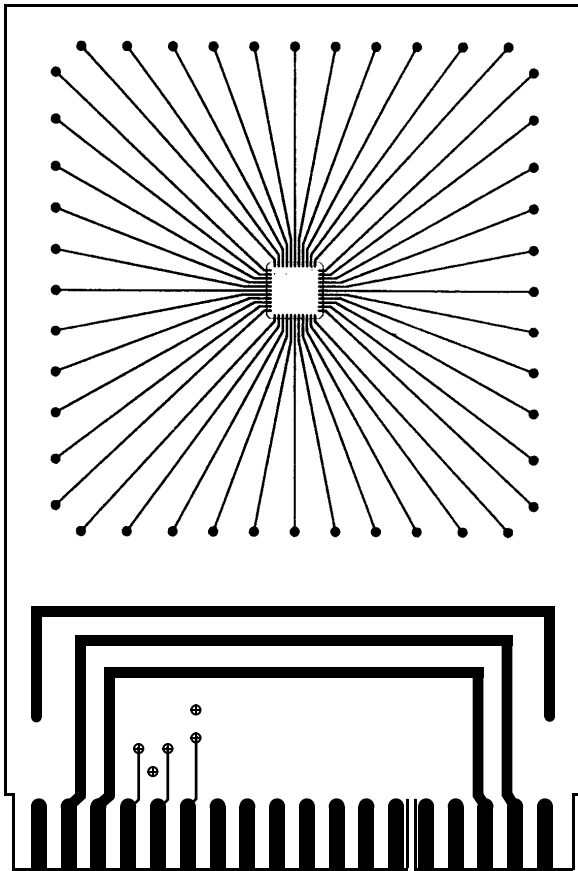

FIGURE 1. TOP VIEW - TYPICAL TEST BOARD
- Figures 1 & 2 below show a typical test board from Top and Side Views.